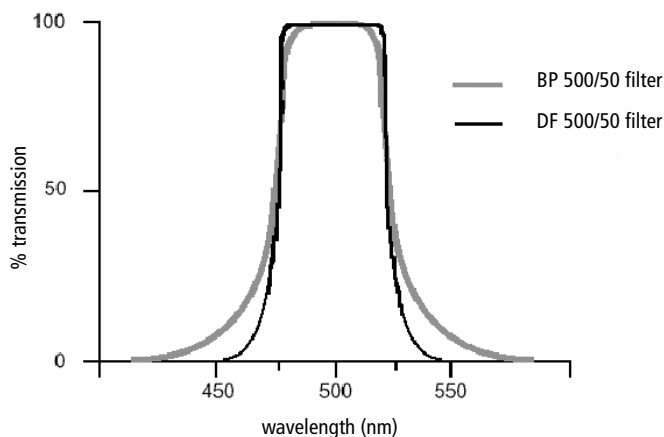

Figure 2-10 Bandpass (BP) vs discriminating (DF) filters
Discriminating (DF) filters have the same general function—they transmit a relatively narrow band of light. The principal difference between BP and DF filters is their construction. DF filters have more cavities or layers of optical coatings, resulting in a steeper transmission curve than the curve for a BP filter. This steep slope means that a DF filter is better at blocking light outside the rated bandwidth of the filter. See Figure 2-10 on page 55.